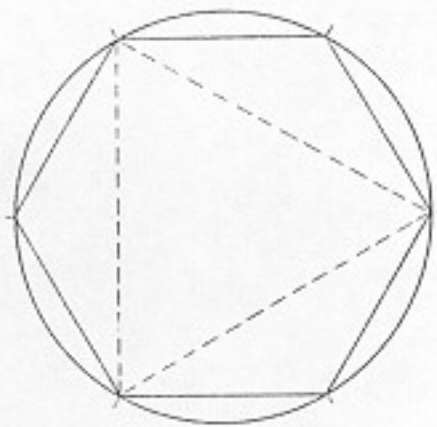

Fig. 54. Inscribing a hexagon in a circle.
3. A hexagon can be inscribed in a circle by stepping off the radius six times around the circumference and connecting these points with straight lines. A triangle is produced by connecting every other point (Fig. 54).